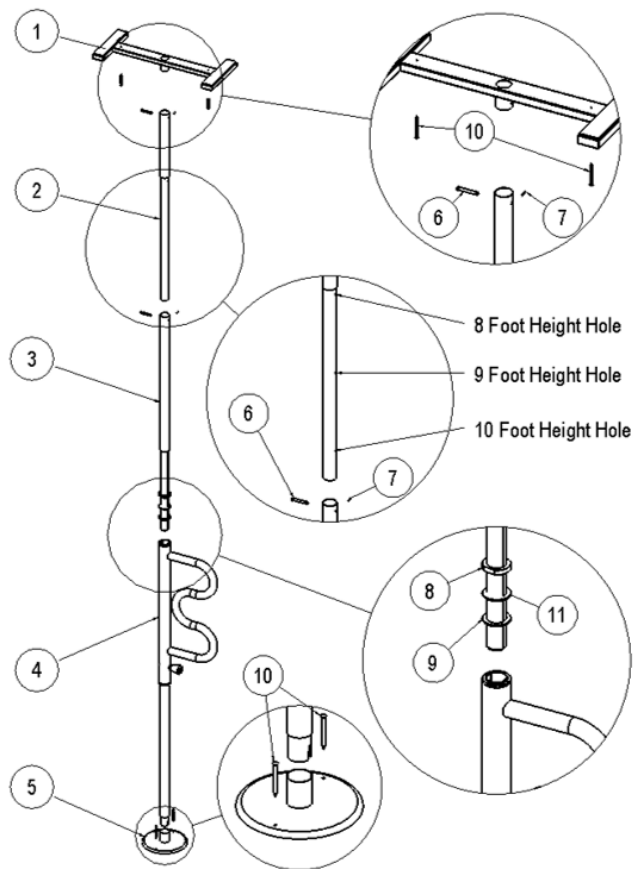
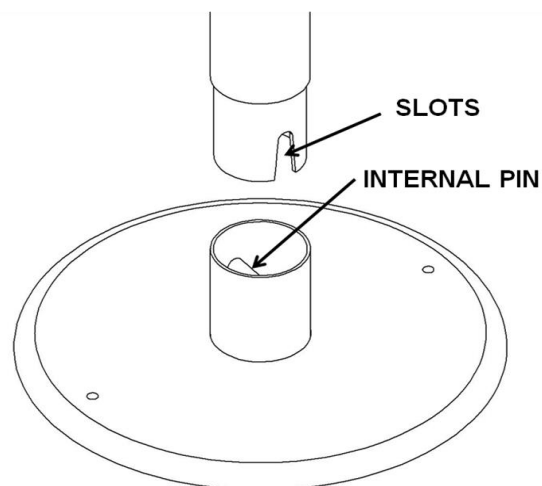

FIGURE 1
FIGURE 3
1. Take all parts out of the box and lay them on a flat surface as shown in Figure 1.
4. The Extension Tube (ITEM-2) has 3 sets of holes marked "8 Foot Height Hole", "9 Foot Height Hole", and "10 Foot Height Hole" as shown in Figure 1. Use the appropriate
7. Attach Base Plate (ITEM-5) to Handle Tube (ITEM-4), as shown in Figure 1, by aligning the slots in Handle Tube (ITEM-4) with the internal pin in Base Plate (ITEM-5) so the slots straddle the internal pin to prevent rotation as shown in Figure 3.
shown in Figure 1 before inserting ITEM-3 into ITEM-4.